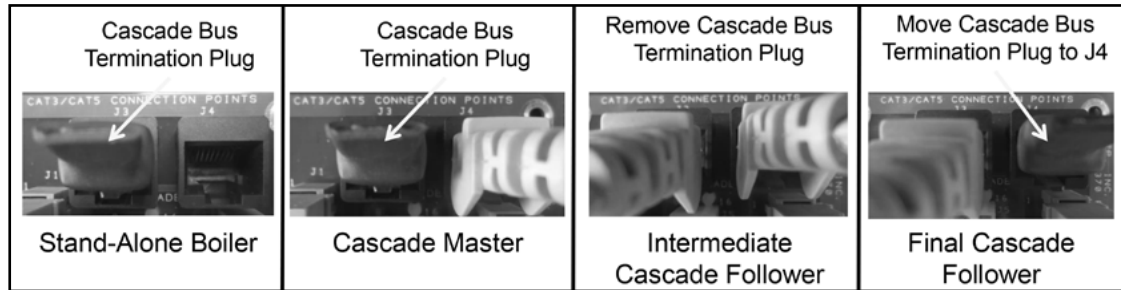

Figure 23 - Cascade Termination Plug Detail
1. A Cascade Bus Termination Plug has been installed on the customer connection board of this boiler. The purpose of this plug is to stabilize communication between multiple boilers and reduce electrical "noise". See Figures 23 and 24 for Cascade Bus Termination Plug installation detail.